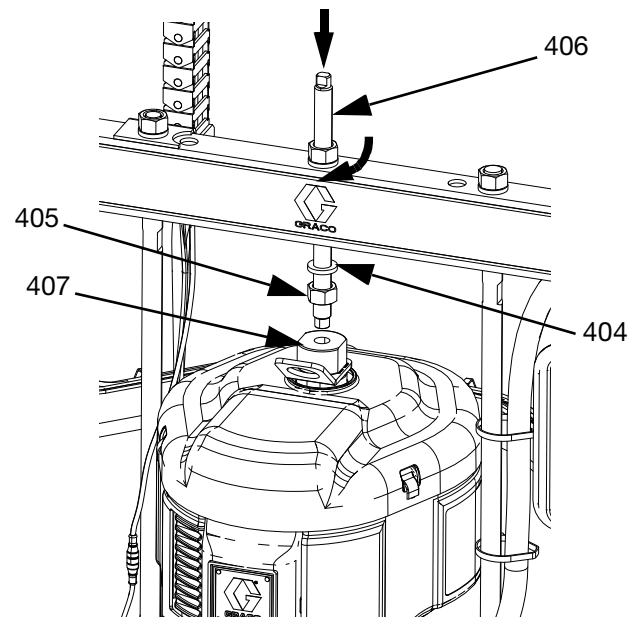

FIG. 48
- b. Install threaded rod (406) through center hole in the Ram. Install lock washers (404) and nuts (405) onto threaded rod (406), both above and below tie bar. Use a wrench to hold lift ring adapter (407) and tighten threaded rod (406) into lift ring adapter (407) using another wrench. See FIG. 48.
- c. Tighten nut (405) below tie bar to 25 ft-lb (34 N•m) maximum.
- d. Tighten nut (405) above tie bar to lock Air Motor (B) in place.